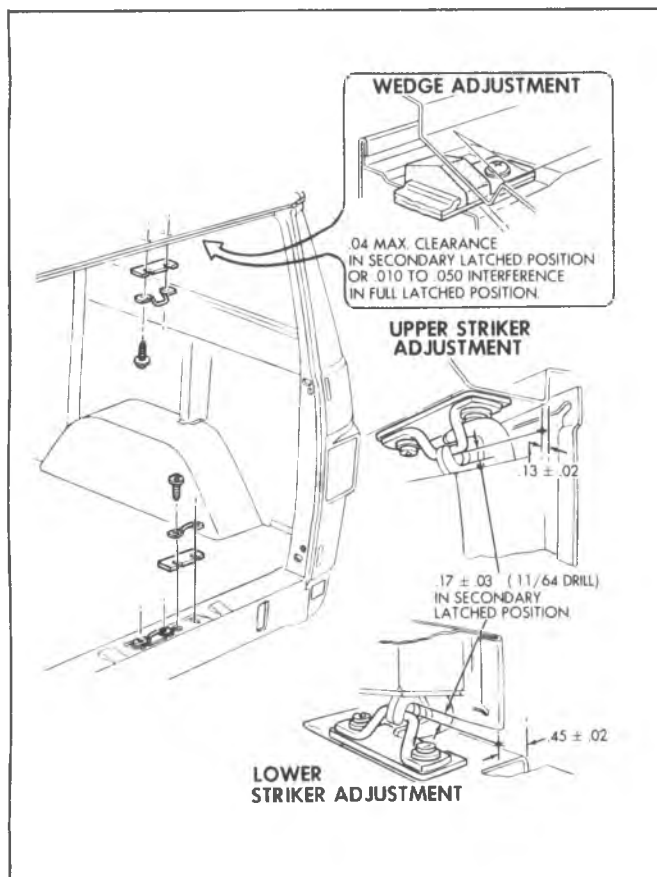

Fig. 2D-130-Rear Door Striker and Wedge Adjustment
1. Adjust striker by adding or deleting shims as necessary to obtain dimension as shown in figure 2D-130. This dimension can be checked by applying grease to the latch and slowly closing door until striker fully engages latch. Then open door and measure from grease impression to bottom of latch slot. Torque to specifications.
2. Adjust door wedge by adding or deleting shims as necessary so that wedge contact ramp on body when door is closed. See figure 2D-130.